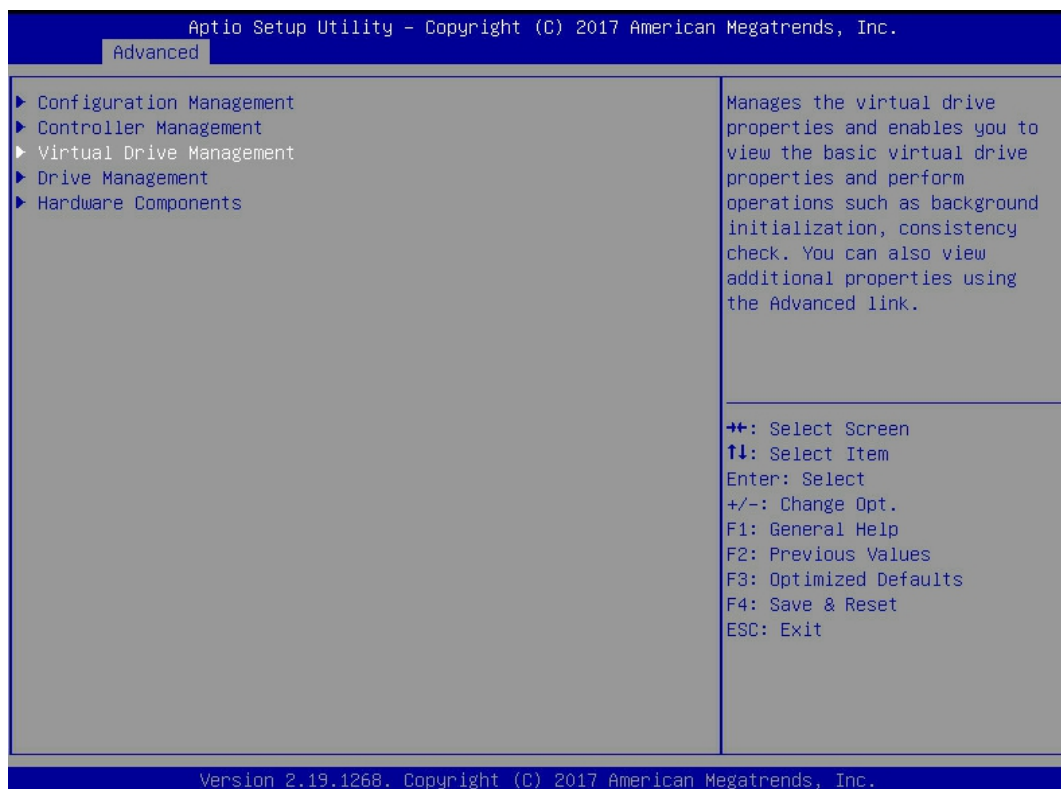

Figure 6-49
- a) As shown in figure 6-49, select virtual drive management in the raid card configuration interface and press enter.
- ✧ Figure 6-49 raid card configuration interface